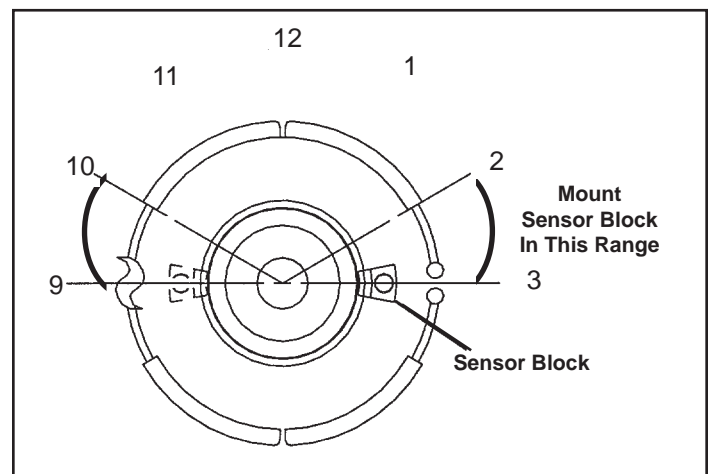

FIGURE 15 - RECOMMENDED SENSOR BLOCK MOUNTING POSITION ON AXLE
3. For best results, the sensor mounting blocks need to be positioned at approximately the 9 or 3 o'clock position on the axle spindle. These positions will see the least effect from axle flexing during loading. See Figure 15.